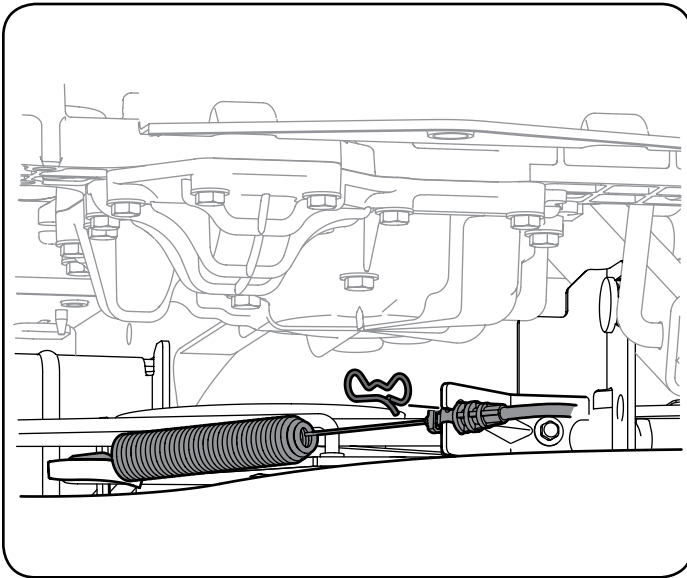

Figure 23
- e. Remove the bow-tie pin that secures the PTO cable to the bracket on the deck, pull back on the PTO cable, then slide it out of the bracket and unhook the spring from the idler bracket. See Figure 23.